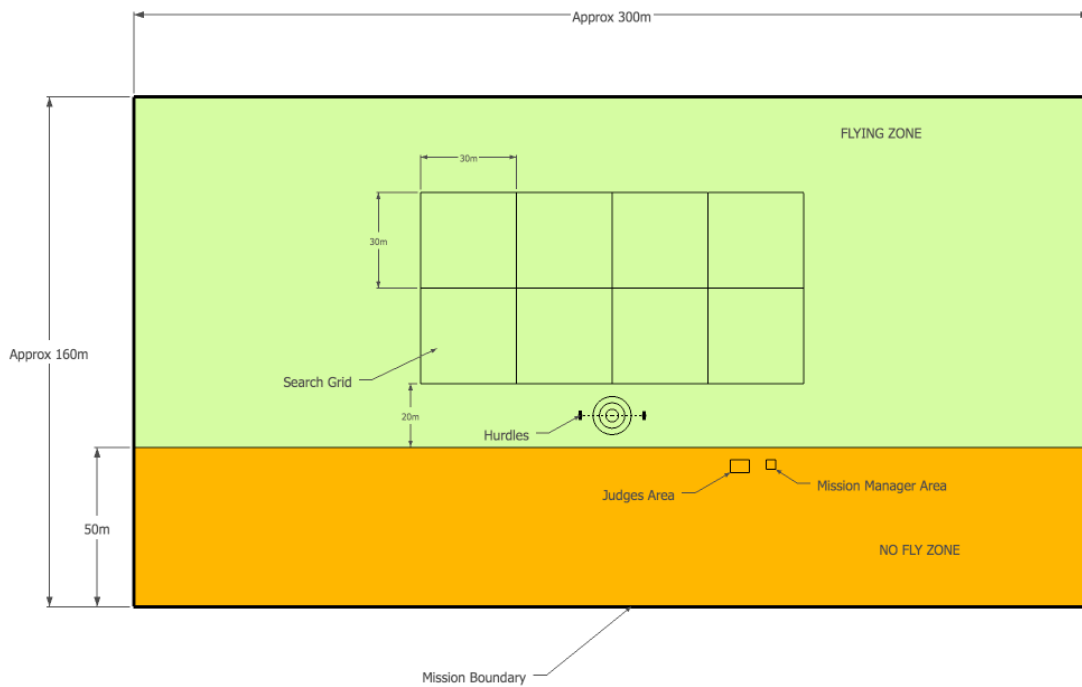

Figure 2 General Layout of the Search Phase
A total of 8 markers will be placed in a search area in the flying zone as indicated in Figure 2, with one marker per grid sector. Five (5) or more of these markers will have a symbol that will only be visible from above. Each team that elects to conduct the search must determine the symbol that is on each marker using their airborne UAV, including the bearing in which any arrow symbols are pointing.